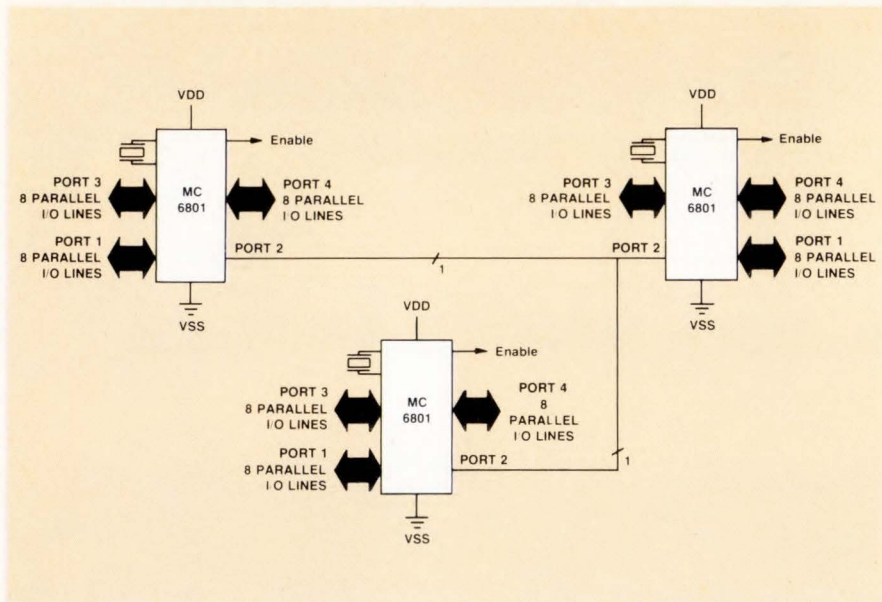

Fig 14 Multiple processor configuration — half duplex interface.
- the clock will be at the selected bit rate with a positive edge at the mid-bit time (Fig 14).